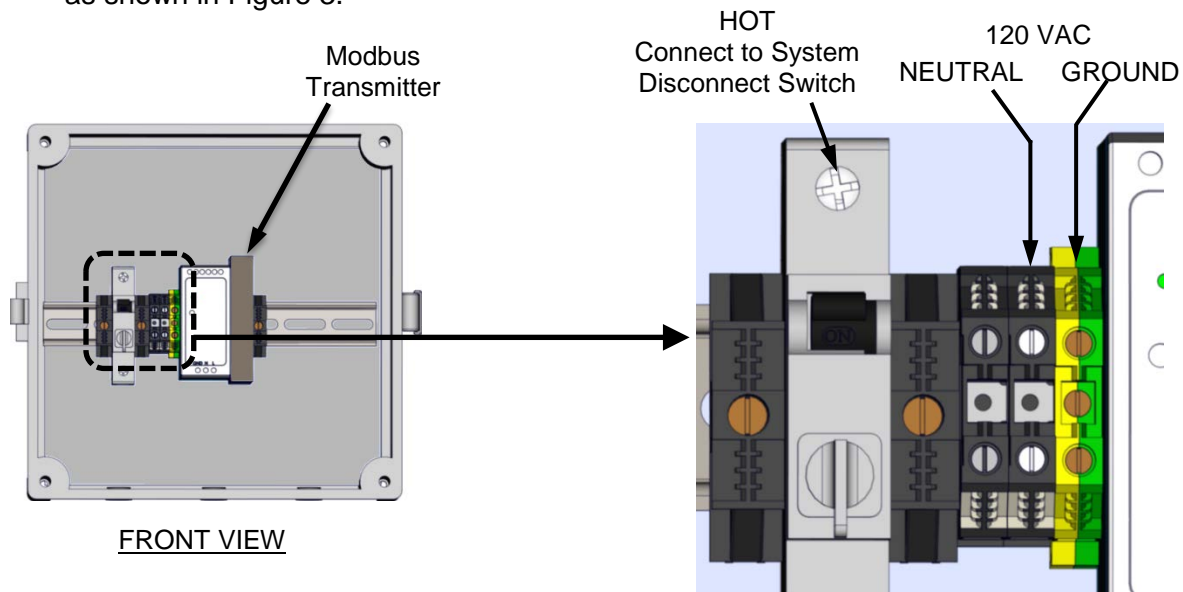

Figure 3: Modbus Transmitter Box Terminals
- Connect the 120 VAC power cable leads to the terminals in the Modbus Transmitter Box as shown in Figure 3.